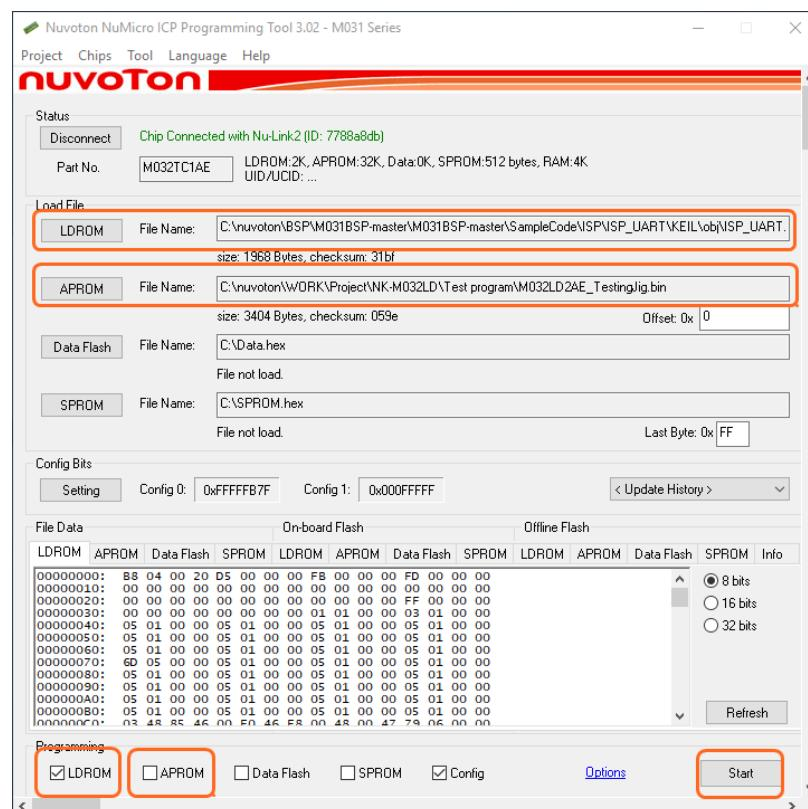

Figure 5.2-7 Programming File Selection Window
- (11) As shown in Figure 5.2-7, select the “.bin” file you want to programming APROM and LDROM, and tick the memory location.
- (12) Click the Start button to start programming.